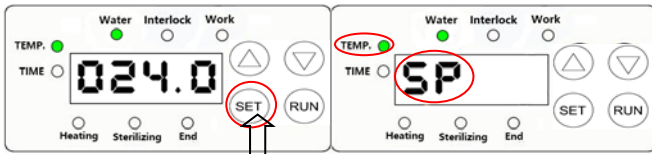

Figure 9
① Set the sterilization temperature: press the set key on the control panel (Figure 9), the sterilization temperature indicator lamp on the panel lights up, and SP appears in the display screen (Figure 10). Press the up and down keys (Figure 11) to adjust the required sterilization temperature value. After the adjustment, press the set key twice to store and confirm the new sterilization temperature data (Figure 12).